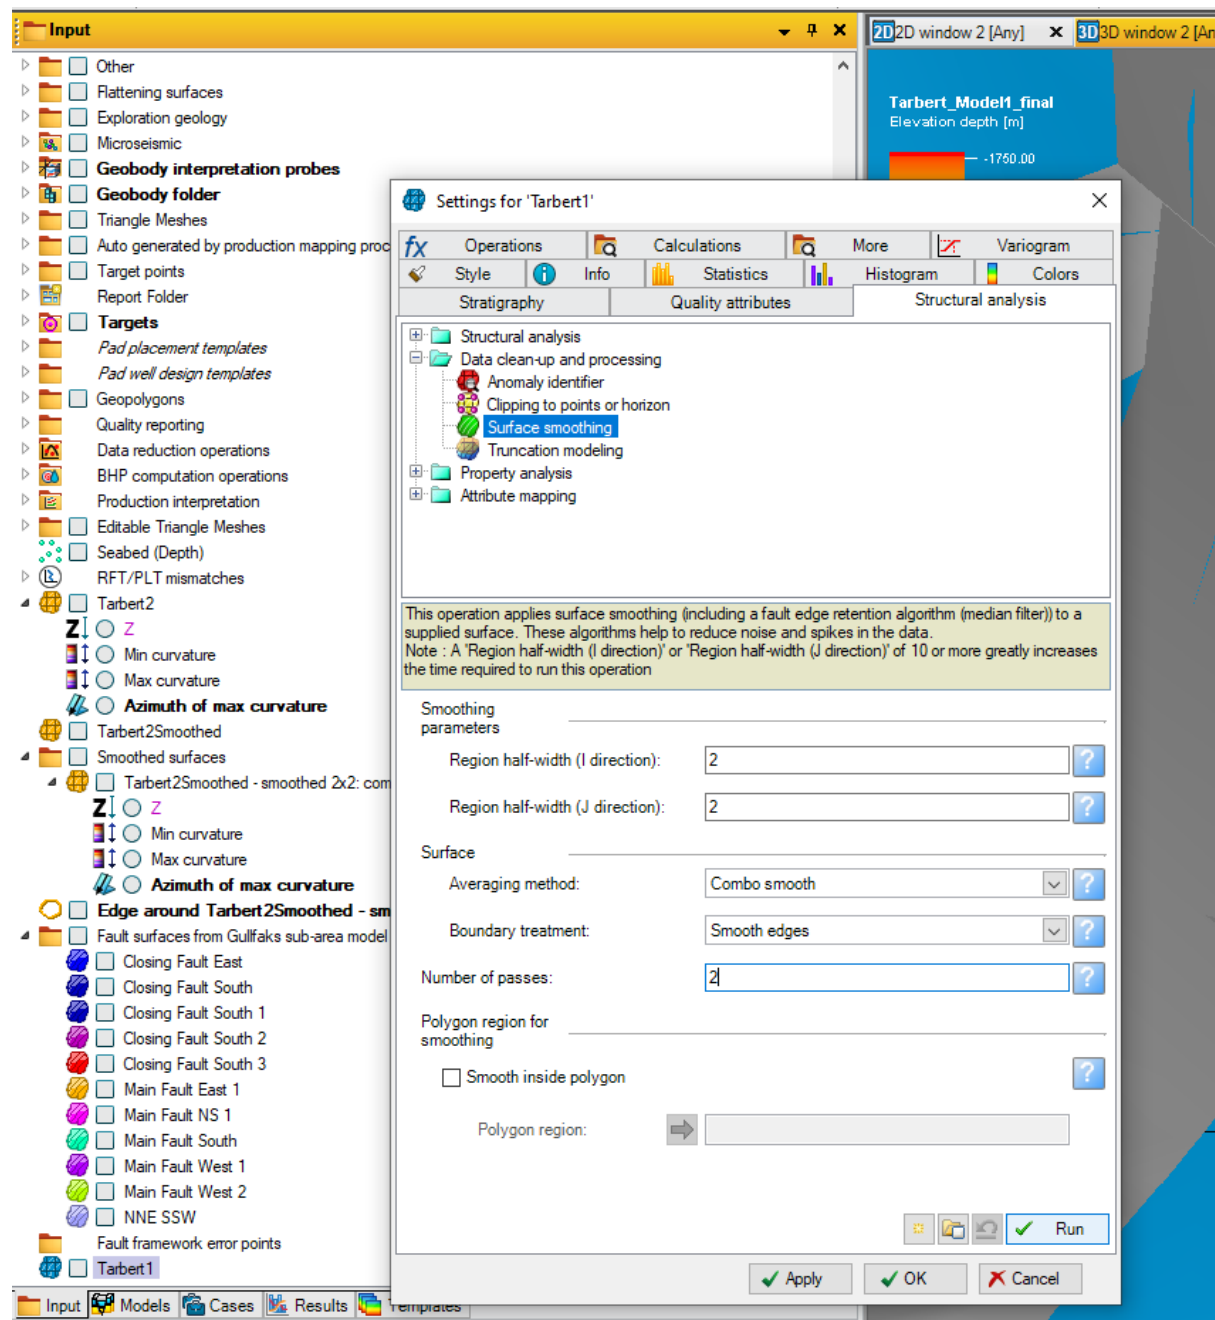

Figure 10: Using the Surface Smoothing algorithm to smooth a surface.
2. It may be necessary to smooth the surface, to remove curvature resulting from noise or very localised structures. Double-click on the surface in the Input pane to open the Settings dialog, go to the Structural Analysis tab and select Surface Smoothing from the Data Clean-up and Processing folder (). Good results can generally be obtained with I and J region half-widths of 2, the Combo Smooth averaging method, Smooth Edges, and 2 passes (Figure 10). Click on Run to carry out the smoothing operation. This will generate a new surface in a folder labelled "Smoothed Surfaces".